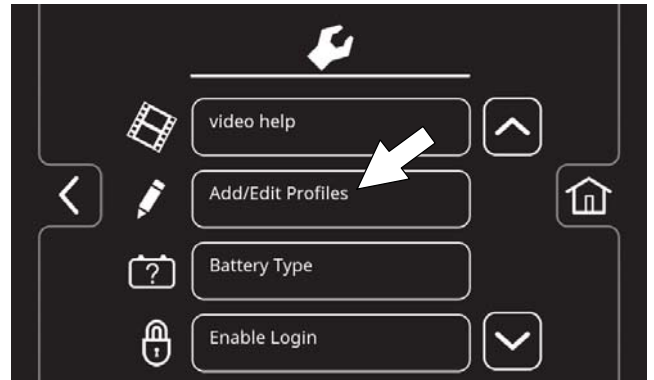

FIG. 158
- Press the Add/Edit Profiles button to enter a new user profile (Figure 158).